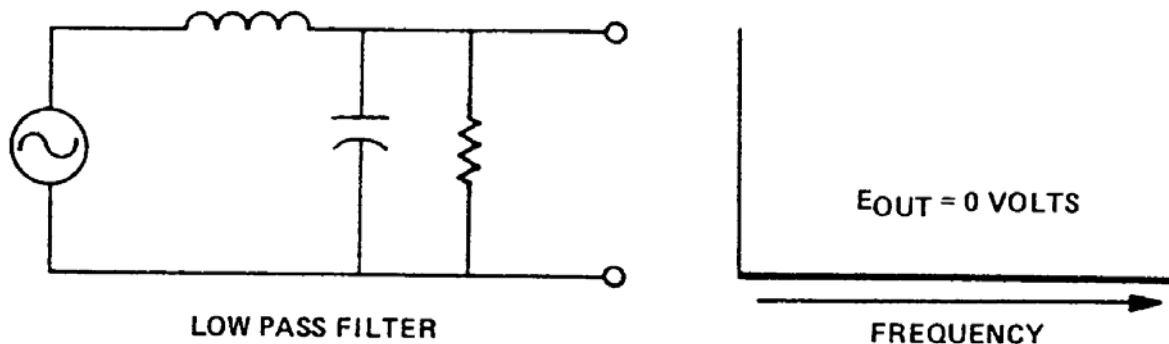

Figure I-1. Open Inductor or Shorted Capacitor
b. Open Inductor. If the series inductor in the LPF in Figure I-1 opens, this will break the circuit, preventing current flow. Since the inductor is located in the series portion of the circuit, the circuit operation will stop completely and the output voltage will fall to zero. A quick test for an open inductor can be performed with the ohmmeter. Depending on the size and number of turns in the coil, a good inductor will indicate continuity with a small amount of resistance. Very high or infinite resistance indicates an open.
c. Shorted Capacitors. A LPF that contains a shorted capacitor (Figure I-1) will yield the same frequency response curve as an open inductor would. This is because the shorted capacitor would short out the load device, leaving the inductor as the only opposition in the circuit. As with any short, the current being drawn from the source would increase. At low frequencies, the inductive reactance could be low enough to allow the excessive current to burn something out; a visual inspection might give the technician a clue as to the source of the trouble.
e. **Open Capacitors.** If the capacitor in Figure I-1 were to open, the resulting frequency response curve would be similar to the one for an inductor that contains a partial short (Figure I-2B).